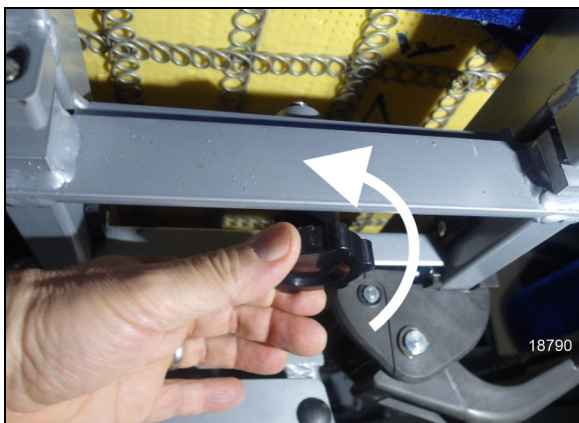

FIGURE 88: LOOSEN THE KNOB
2. Pull the seat toward the aisle to unlock the rotation (Figure 88).